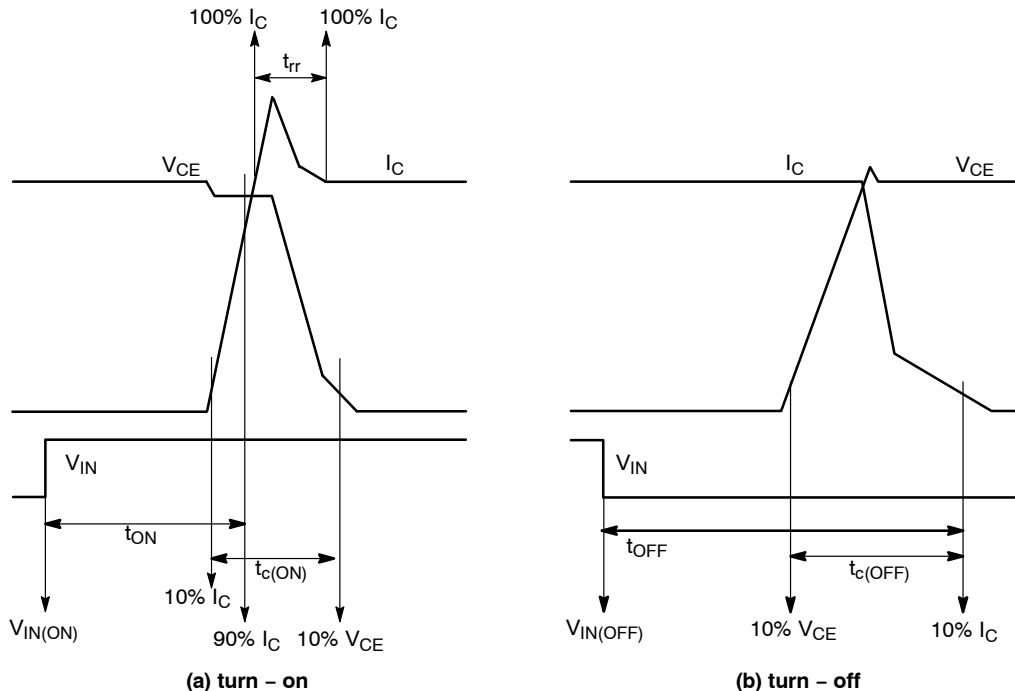

Figure 3. Switching Time Definition
6.  $t_{ON}$  and  $t_{OFF}$  include the propagation delay time of the internal drive IC.  $t_{C(ON)}$  and  $t_{C(OFF)}$  are the switching time of IGBT itself under the given gate driving condition internally. For the detailed information see Figure 3.